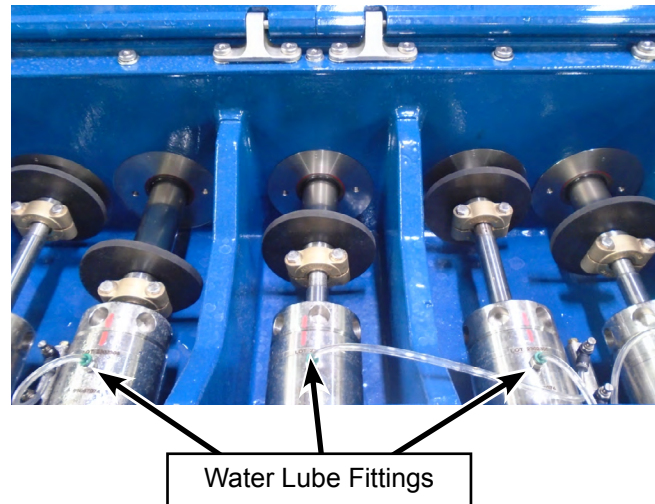

Figure 36: Remove Water Lube Lines and Fittings.
9. Decouple the water lube line from each stuffing box. Remove the water lubrication fitting from each stuffing box (Figure 36).